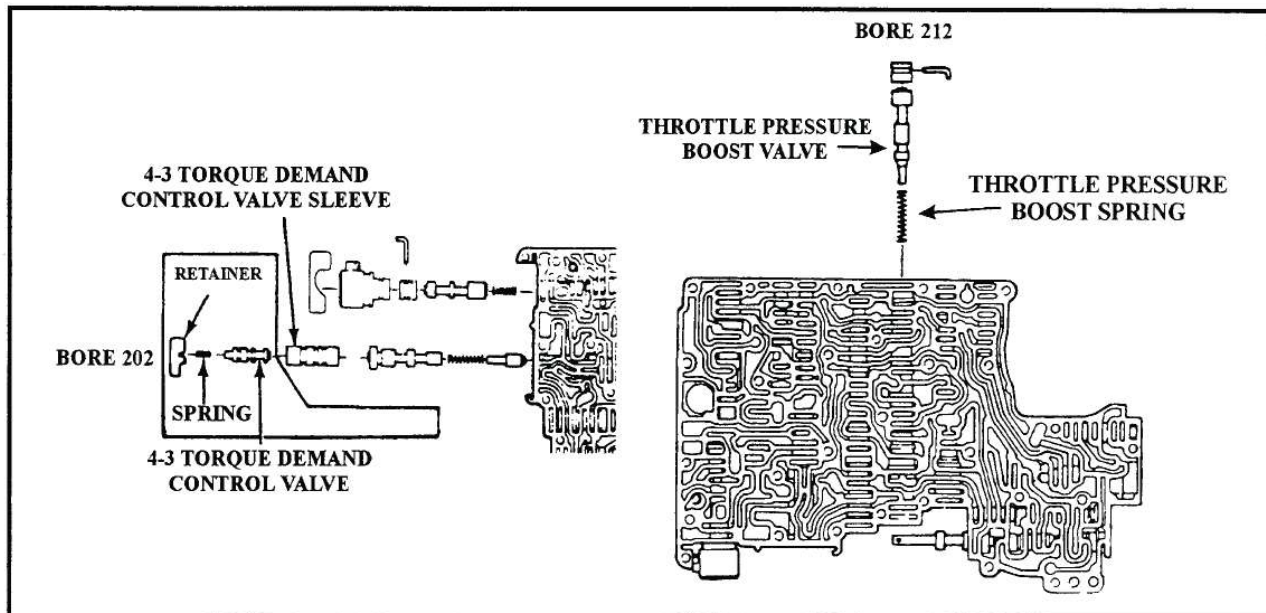

Figure 82
**CAUSE:** The cause may be an incorrectly calibrated throttle pressure boost spring and 4-3 torque demand control valve spring (See Figure 82).